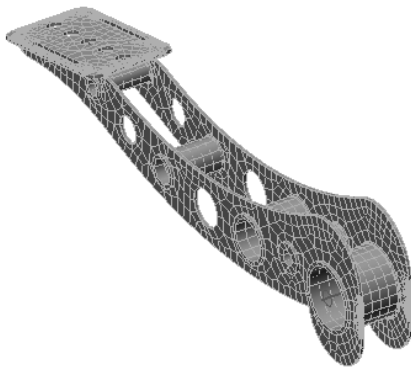

Figure 8-84 Rotated view of the model
1. Change the current orientation of the model similar to the one shown in Figure 8-84 by using the **ViewCube**.